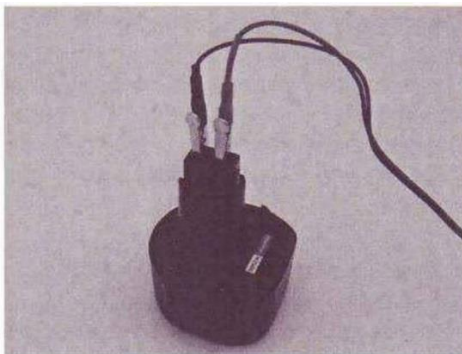
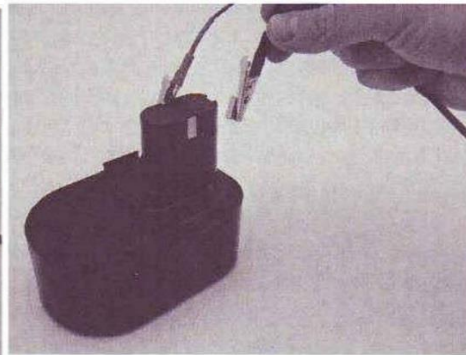

Figure 1
Figure 2
1. Connect each of charger's output connectors to the corresponding battery terminal, making sure that the charger's positive '+' **RED** clip is connected to battery's positive '+' terminal and charger's negative '-' **BLACK** clip is connected to battery's negative '-' terminal. (See figure 1 below). If the battery's terminals are such that a mechanical clamping connection is not possible, use the magnets provided with the charger to secure the necessary electrical connections. (See Figure 2 below). If the battery terminals are unlabeled, connect one way and if charging doesn't begin reverse the connections. The charger is reverse polarity protected and will not be damaged if polarity is inadvertently reversed.